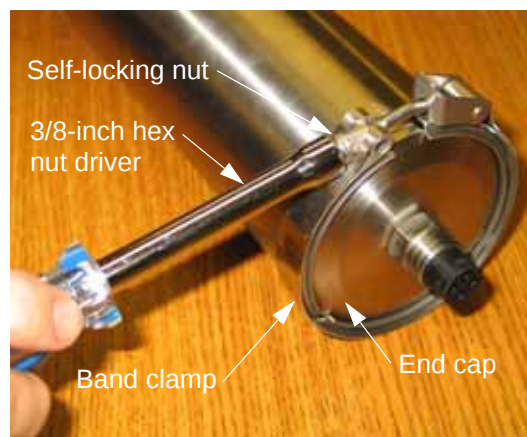

Figure 6-1: Loosening the Self-Locking Nut on the Band Clamp
- 1 Using a 3/8-inch hex nut driver, loosen the self-locking nut on the band clamp that secures the end cap as shown in Figure 6-1.